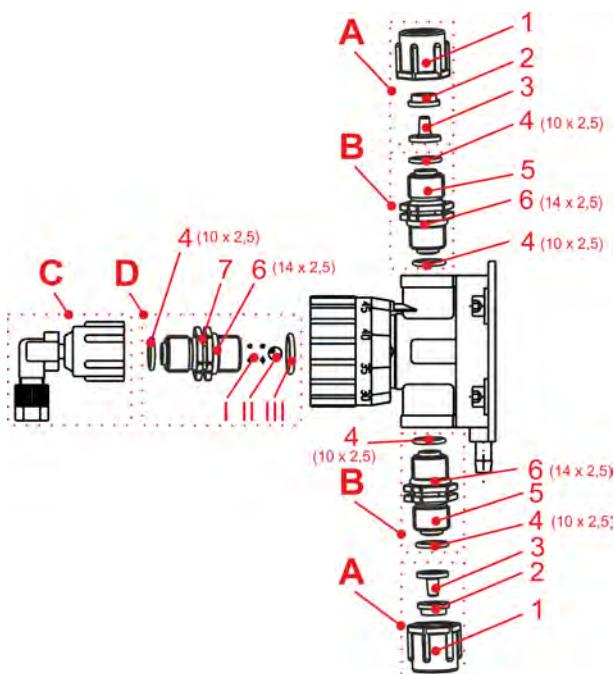

Fig. 86: Replacing the suction / return valve
2. Suction valve and pressure valve (Chapter 11.1 'Austausch von Saug- / Rücklauf- und Druckventil' on page 108, Fig. 86) for dirt and impermeability.